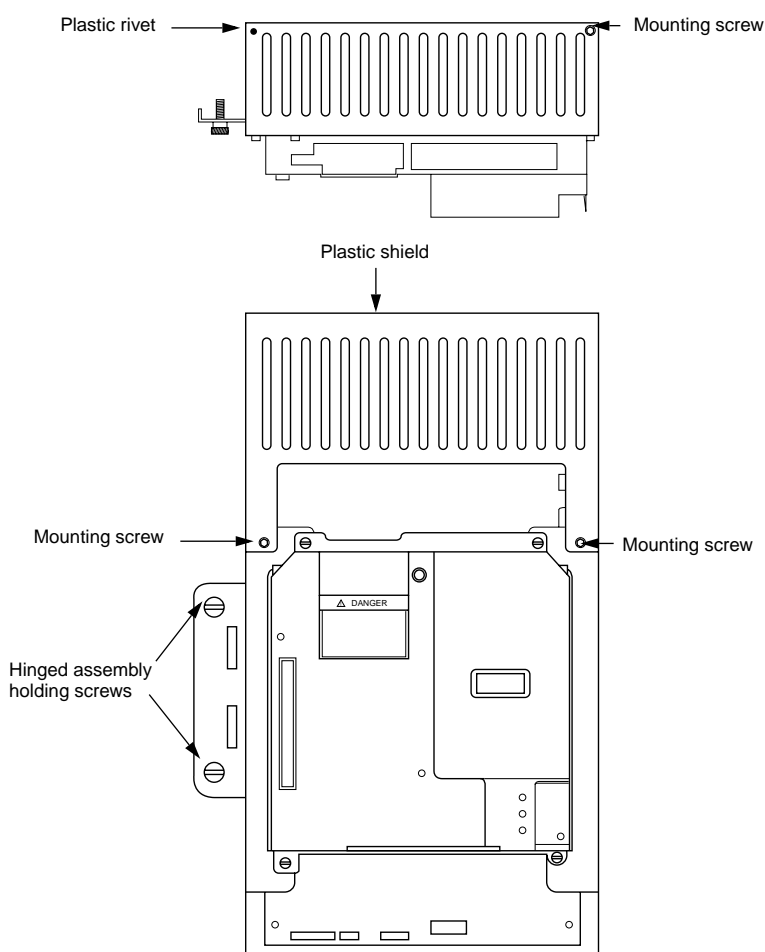

Figure 4.1.9: Front View of Hinged Assembly
2. Using a flat blade screwdriver, loosen the two screws holding the hinged assembly in place (see Figure 4.1.9 on page 4.1.16). Swing the hinged assembly out to the right.
3. Using a hex key wrench, remove the three plastic shield mounting screws (see Figure 4.1.9). Using the plastic rivet as a hinge, swing the plastic shield out of the way.
2. Using a flat blade screwdriver, loosen the two screws holding the hinged assembly in place. Swing the hinged assembly out to the right (see Figure 4.1.9 on page 4.1.16). This allows access to the snubber boards.